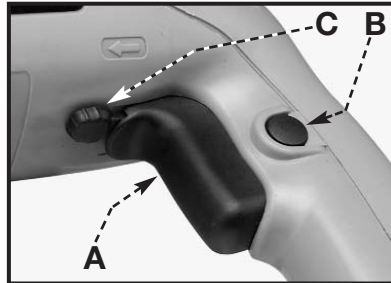

Fig. 1
2. Squeeze the TRIGGER SWITCH (A) Fig. 1 to start the motor. Release the trigger switch to stop the motor.
3. A switch-lock button (B) Fig. 1 is provided to keep the motor running without holding the trigger switch “ON”.
4. This tool will operate in either the forward direction (clockwise rotation), or the reverse direction (counter-clockwise rotation). For counter-clockwise rotation, stop the motor by releasing the trigger switch and push the reversing switch (C) Fig. 1 toward the right side of the drill, or in the opposite direction for clockwise rotation.